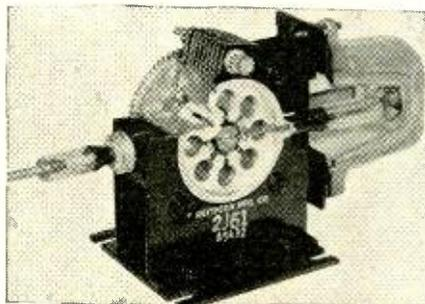

Fig. 1.
- Fig. 1 is a photograph of a (a) klystron (b) magnetron (c) lighthouse tube.